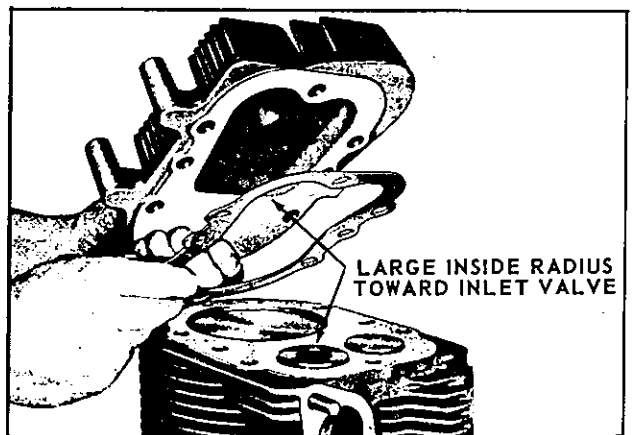

Fig. 23 293067C
#### CYLINDER HEAD and SPARK PLUG (Fig. 23)
*In reassembly*, use new cylinder head and spark plug gaskets. **Note:** Internal contour of cylinder head gasket at inlet and exhaust valves are not the same. Mount gasket to cylinder block with the larger internal radius located at the inlet valve. See Fig. 23.